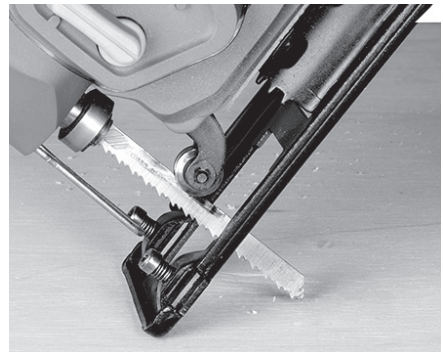

FIG 7
- Start the cut at a slow speed, gradually tilting the blade downward toward the material. See FIG 7.